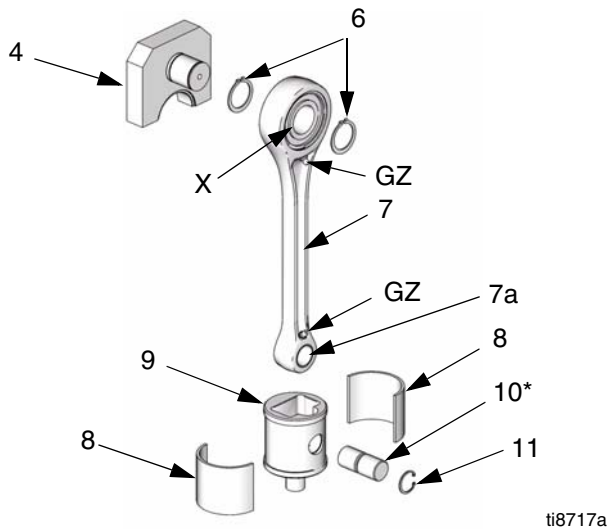

FIG. 5. Drive Linkage Assembly
1. See FIG. 5. Install the new wrist pin bearing (7a*) on the connecting rod (7). Align the hole in the bearing with the grease passage in the connecting rod (7).
2. Orient the new connecting rod (7) and slider piston (9) as shown. Assemble the pin (10*) and retaining ring (11).